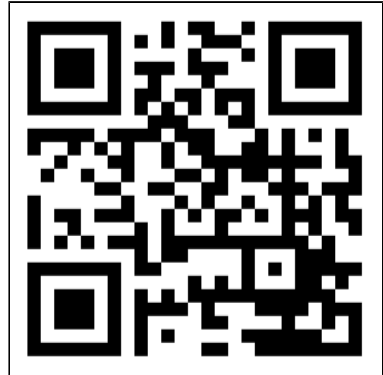

Figure 26.
1. Open the Eurom Smart App manual with the QR code (Figure 26) or go to www.eurom.nl/nl/manuals.